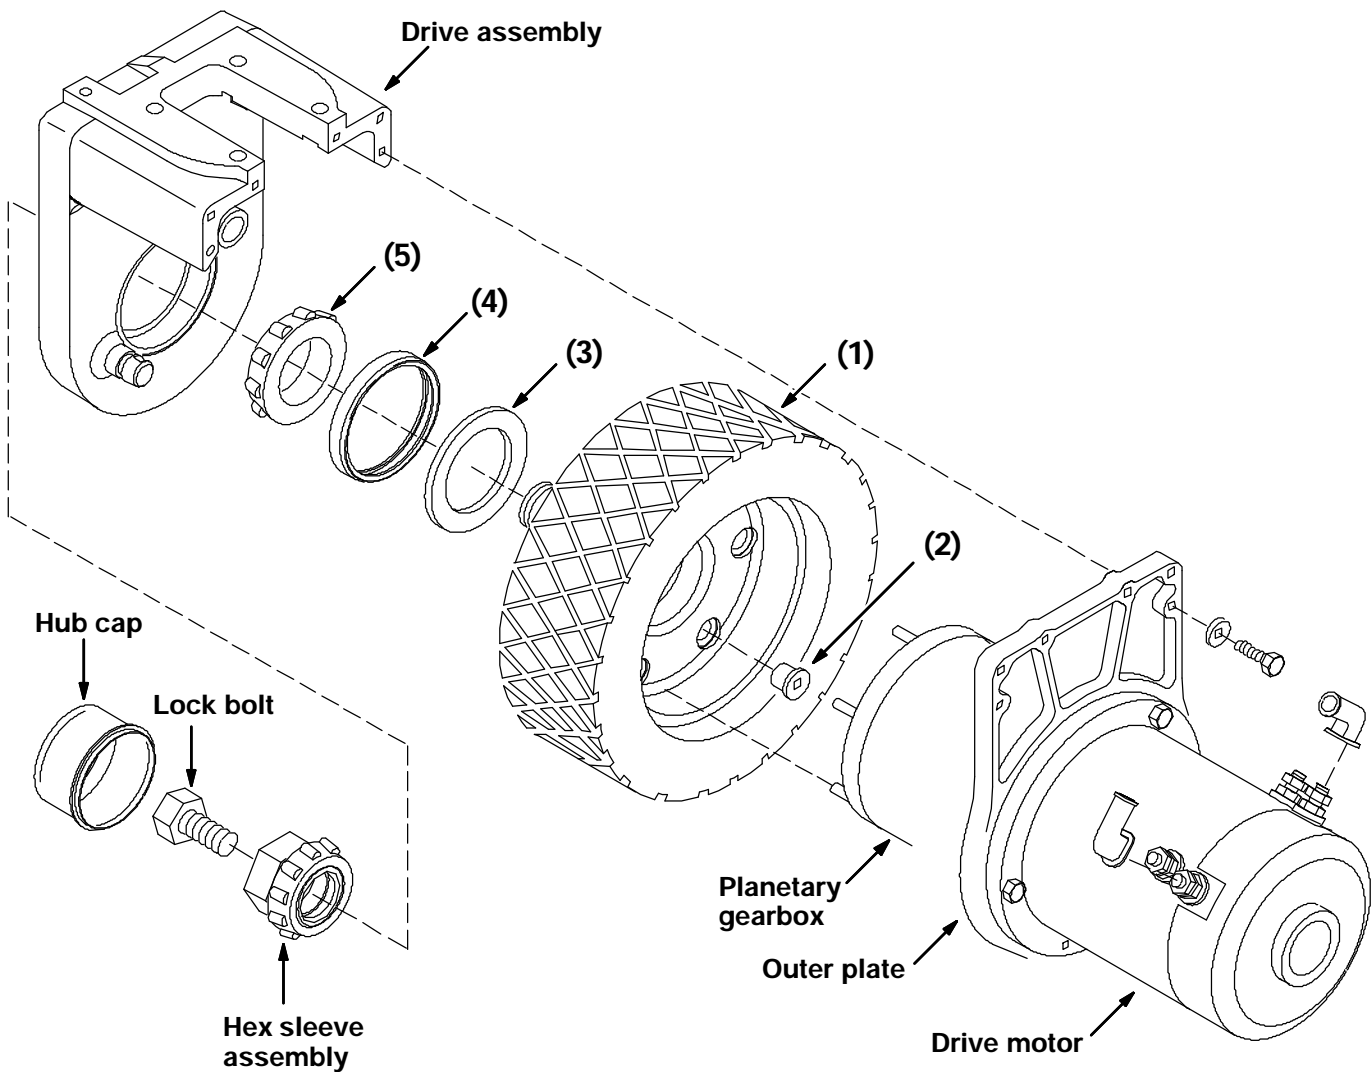

FIG. 1 - Front Drive Wheel Assembly
(Refer to FIG. 1)
3. Mark and remove the electrical cables leading to the front drive motor. (Refer to FIG. 1)
4. Remove the four hex screws holding the outer plate, motor, and planetary gear box to the main drive assembly. (Refer to FIG. 1)
5. Pull the planetary gear box, outer plate, and motor out of the drive wheel and away from the drive assembly. (Refer to FIG. 1)
6. Go to the other side of the drive assembly and remove the hub cap. This will expose the outer bearing, hex sleeve, and lock bolt. (Refer to FIG. 1)
(this is a right-hand thread screw) (Refer to FIG. 1)
(this is a left-hand thread nut) (Refer to FIG. 1)
9. The inner bearing, axle shaft, and tire/wheel assembly can now be removed from the drive assembly. (Refer to FIG. 1)
1. Reinstall the new tire/wheel assembly (1), new washer (3), new seal (4), and new bearing cone (5) in the drive assembly. Make sure the inner and outer wheel bearings are completely greased before re-assembly. (Refer to FIG. 1)
2. Reinstall the outer bearing and hex sleeve assembly. **(this is a left-hand thread nut)** Tighten to at least 100 ft lbs and then back off the hex sleeve to 0 ft lbs. Re-torque the hex sleeve to 30 ft lbs. (Refer to FIG. 1)
3. Install the lock bolt in the end of the hex sleeve. Tighten the lock bolt to 200 Nm (150 ft lbs) while holding the hex sleeve from turning. (Refer to FIG. 1)
4. Reinstall the hub cap in the drive assembly. (Refer to FIG. 1)
5. Go to the other side of the drive assembly and install the six new bushings (2) in the new front wheel assembly (1). Install the planetary gear box, outer plate, and motor assembly into the new wheel assembly and onto the pins of the drive assembly. (Refer to FIG. 1)
7. Reconnect the electrical cables to the front drive motor. (Refer to FIG. 1)